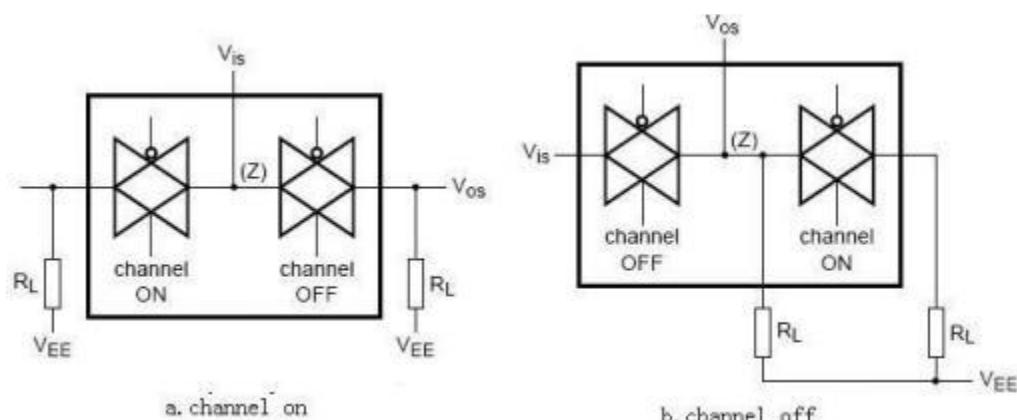

Figure 11. Inter channel Crosstalk
- [2] $R_L=1\text{k}\Omega$; $20\log Vos/Vis=-50\text{dB}$, see Figure 11.